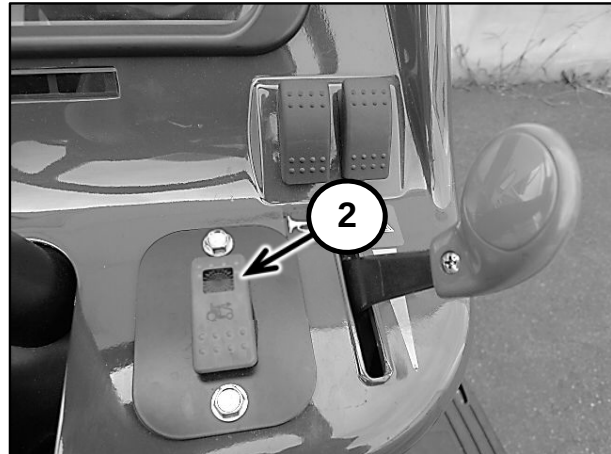

Figure 2-32
The HST cruise control switch (1) in Figure 2-32, is located on the right-hand side of the console. It is used to maintain a constant forward or reverse speed.